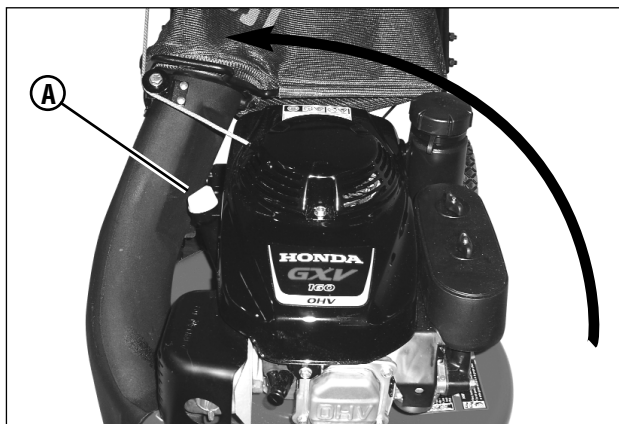

Figure 16: Draining the engine oil
2. For the simplest/cleanest oil change, simply turn the mower on its side to drain the oil, as shown. Drain the oil through the dipstick tube (A, Figure 16) into a container. Allow sufficient time for all the oil to drain.